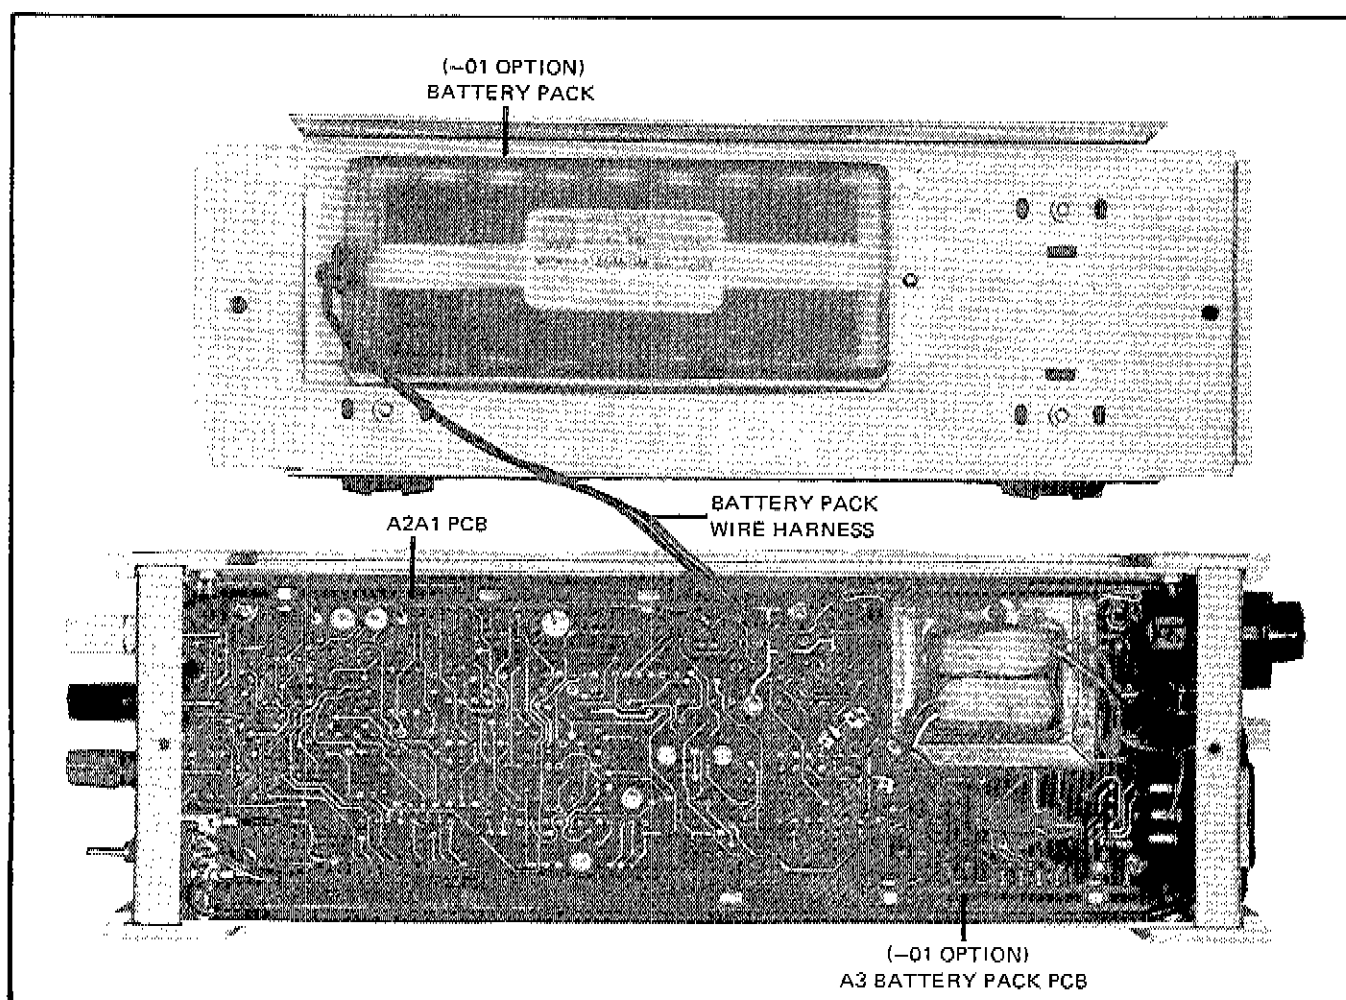

Figure 4-2. ASSEMBLY LOCATIONS (BOTTOM COVER REMOVED)
- Remove the bottom dust cover. Access is now provided to assemblies shown in Figure 4-2.
- Locate the assembly to be removed using Figure 4-2.
4-19. The batteries for the -01 Option are installed on the inside of the bottom dust cover as shown in Figure 4-2. If replacement is necessary, the entire Battery Pack, FLUKE PART NO. 284356, should be replaced. Proceed as follows:
- Disconnect the four wires labeled 1 through 4 from A3 Battery Pack PCB. Refer to Figure 4-2 for location.